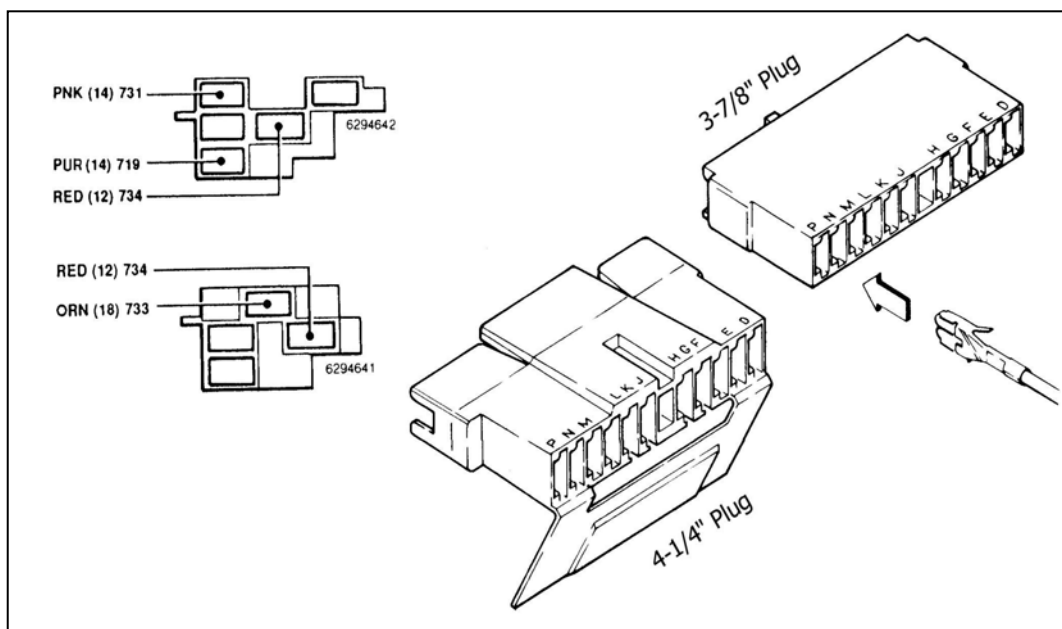

Figure 7.2 GM Turn Signal Connectors
7.4 Steering Column Wiring – Turn Signal & Ignition Switch Connectors. See Figure 7.2 and Table 7.1.
7.4.1 There are two different plugs on most tilt columns. The difference is in the length of the male plug that is mounted ON THE COLUMN. One plug is 3-7/8" (3.875") long and the other is 4-1/4" (4.250"). This is only a difference of 3/8" (0.375"), so measure the plug carefully. The Wire Harness Kit has included two different female connectors to mate with the column-mounted plug. See **Figure 7-2** to determine which female connector is correct for your automobile.
The TURN SIGNAL SECTION wires may have already been terminated for you. If not cut wires to length and install terminals provided. Choose the proper plug and install the terminals according to **Table 7-1**, as shown in **Figure 7-2**. The GM wire color codes have been included for reference.
Note: *The terminals will only insert into the connector ONE WAY, as shown in Figure 7-2. Make certain you are inserting the wire into the CORRECT LOCATION as the terminals are difficult if not impossible to remove once inserted.*
7.4.2 The Steering Column Wiring comes with GM ignition switch connectors pre-wired. See **Table 7-1** and **Figure 7-2** for color codes, wire numbers, and wire designations for the Ignition Switch Connectors.